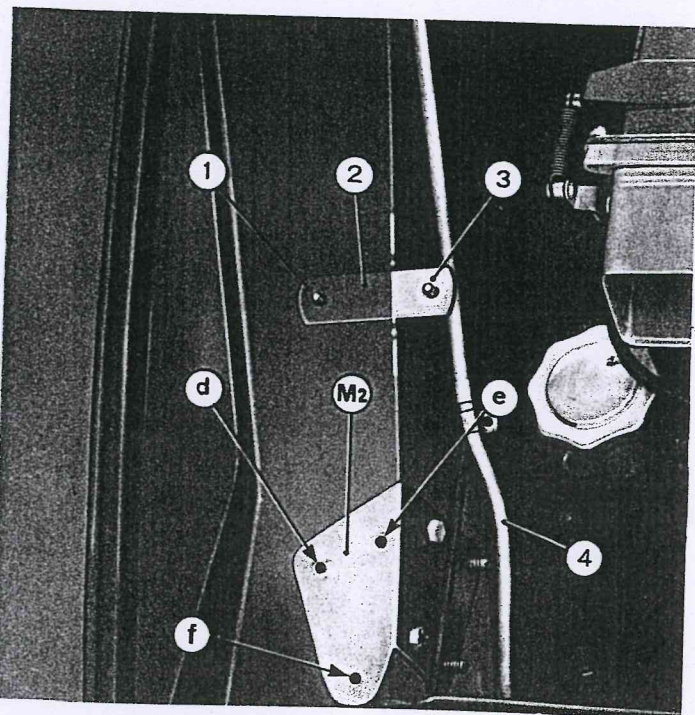

Fig. 8. - SPIDER: application of jig M2 for front plate positioning.
M2: This jig (to be used for the Spider version) is obtained from front plate No. 1903978 (see page 7) from which the three screws for «Dinoplex C» and ignition coil mounting screws must be cut off drilling three holes d, e and f in their place (see fig. 8).
- 3) Disconnect the servobrake line (4, fig. 8) from reservoir and take off the three clips holding the pipe on side rail.
- 5) Cut off wing 3, fig. 8, and saw away stud 1, fig. 8, from bracket 2, fig. 8.
- 6) Position jig M2, fig. 8, locating it on the two compressor fixing screws and scribe the three holes d, e and f. Remove the jig and drill the holes using a 16 mm dia. edge hole saw (the use of this tool, is recommended to prevent chips from falling, inside the frame box-member).